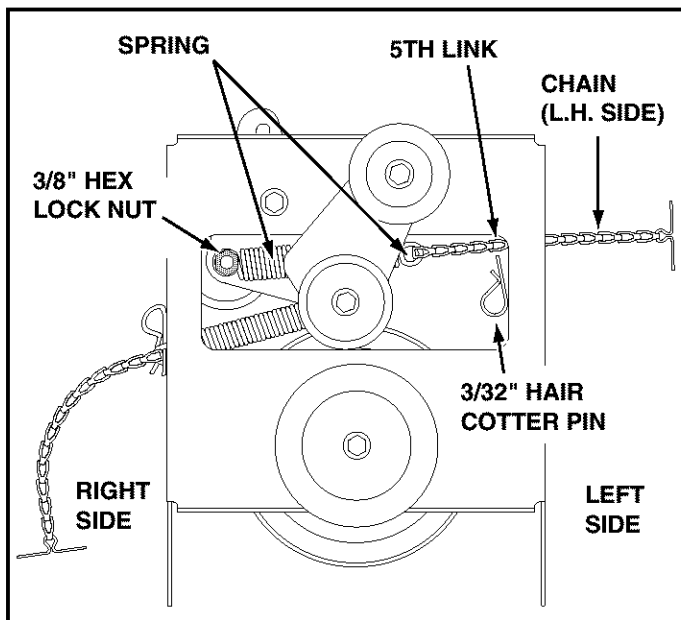

FIGURE 12
- Hook the loose spring through the end of the tensioning chain. See figure 12.
- Hook the other end of the spring onto the bottom of the bolt and nut which secure the idler pulley to the upper idler arm. Hold the bolt head and assemble a 3/8" hex lock nut onto the bolt, leaving it loose enough for the spring to pivot freely between the two nuts. See figure 12.
- Attach a 3/32" hairpin cotter to the chain, placing it in the fifth link from the spring. See figure 12.